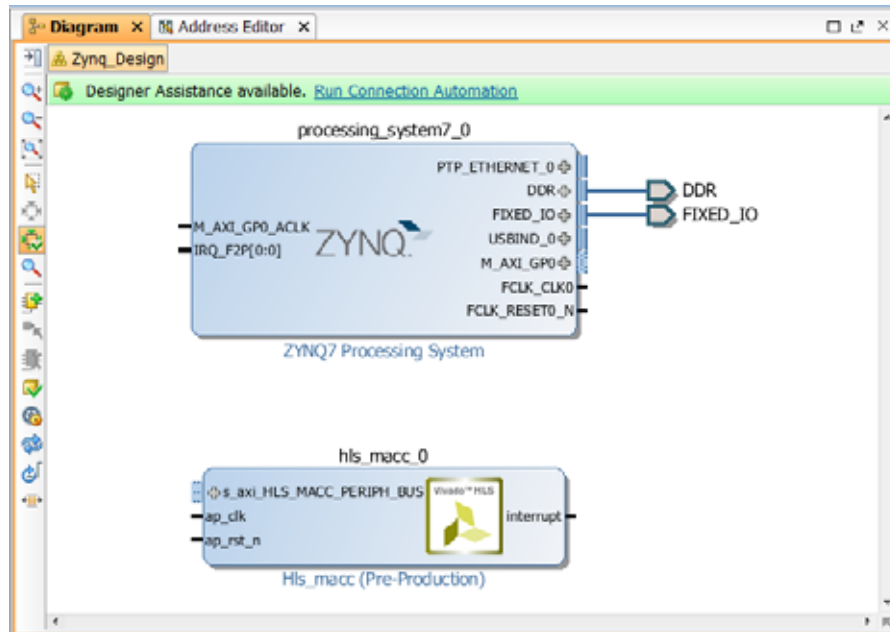

Figure 10-17: Processor and HLS IP
- b. Type **hls** in the Search text entry box and press **Enter** to add it to design (Figure 10-17).